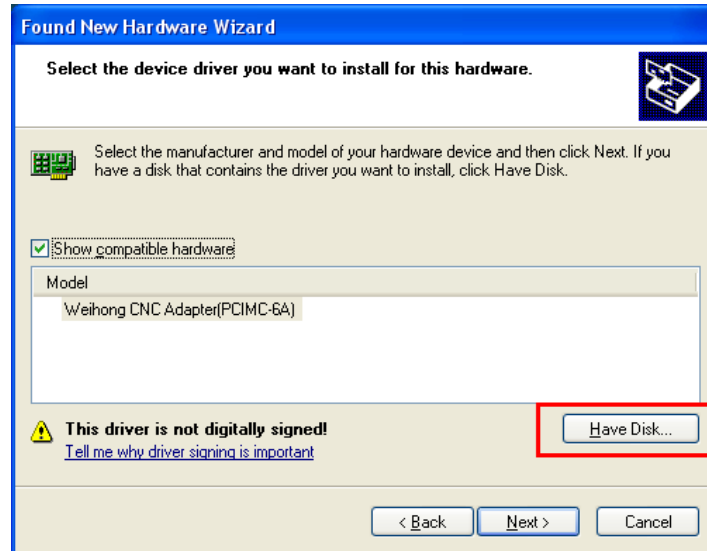

Fig. 3-3 Find driver location—1
- 3) Select “Don’t search. I will choose the driver to install”, and then click “Next”. See Fig. 3-3 for the new pop-up window.